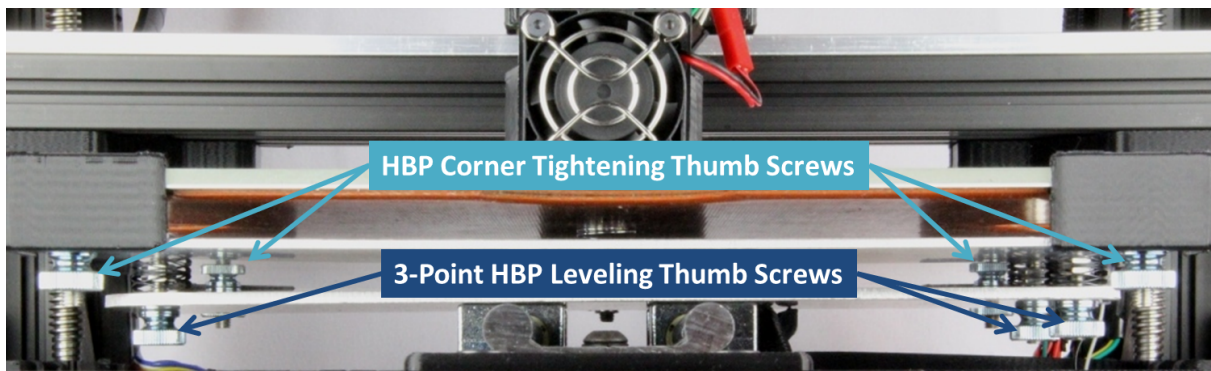

Figure 2.37: HBP thumb screws
1. Do not be confused with the 3-point thumb screws in the middle of Y-axis mount plate and the bed tightening screws in the four corners of HBP. (Figure 2.37)